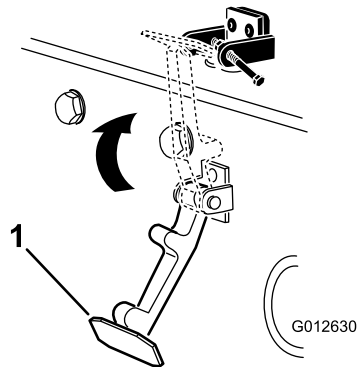

Figure 5
6. Hook the latch onto the hood-latch bracket (Figure 5).